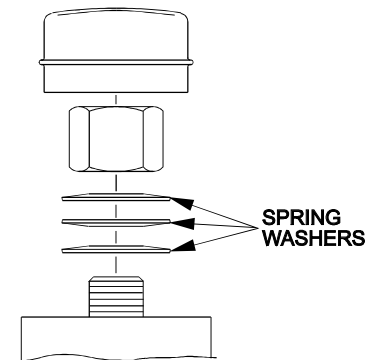

FIG. 11
- a) Remove dust cap from caster and tighten nyloc nut until washers are flat and back off 1/4 of a turn to properly set the pre-load on the bearings. If disassembled make sure the spring washers are reinstalled as shown in Figure 11.